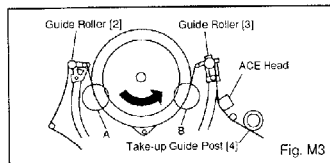
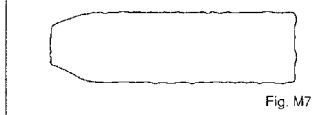
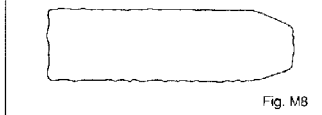

Fig. M3
Fig. M7
Fig. M8
1. Play back a blank cassette tape and check to see that the tape runs without creasing at Guide Rollers [2] and [3], and at points A and B on the lead surface. (Refer to Fig M3 and M4.)
2. If creasing is apparent, align the height of the guide rollers by turning the top of Guide Rollers [2] and [3] with a Guide Roller Adj. Screwdriver. (Refer to Fig. M3 and M5.)
3. Check to see that the tape runs without creasing at Take-up Guide Post [4] or without snaking between Guide Roller [3] and ACE Head. (Fig. M3 and M5)
3. Play back the Gray Scale on the Alignment Tape (FL8NW). Adjust the height of Guide Rollers [2] and [3] (Fig.M3) watching the oscilloscope display so that the envelope becomes as flat as possible. To do this adjustment, turn the top of the Guide Roller with the Guide Roller Adj. Screwdriver.
4. If the envelope is as shown in Fig. M7, adjust the height of Guide Roller [2] (Refer to Fig.M3) so that the waveform looks like the one shown in Fig. M8.
5. If the envelope is as shown in Fig. M8, adjust the height of Guide Roller [3] (Refer to Fig.M3) so that the waveform looks like the one shown in Fig. M9.
6. When Guide Rollers [2] and [3] (Refer to Fig.M3) are aligned properly, there is no envelope drop either at the beginning or end of track as shown in Fig. M9.
Note: Upon completion of the adjustment of Guide Rollers [2] and [3] (Refer to Fig. M3), check the X Value by pushing the Tracking Control Up or Down buttons alternately, to check the symmetry of the envelope. Check the number of pushes to ensure center position. The number of pushes UP to achieve 1/2 level of envelope should match the number of pushes DOWN from center. If required, redo the "X Value Alignment."